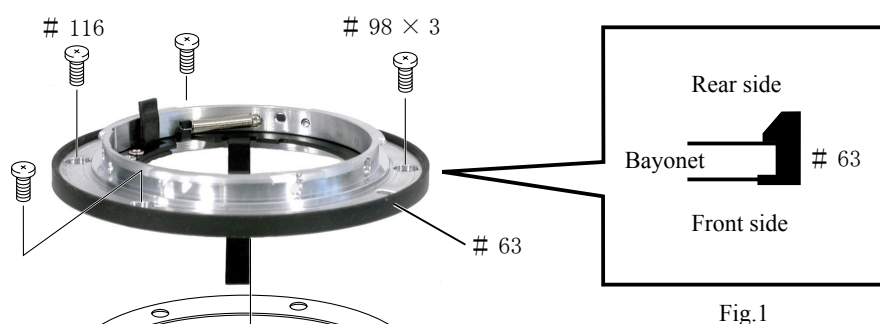

Fig.1
① Attach the washers (#78).
② Set the bayonet mount with 3 screws (#98) and the screw (#116).
- Attach the rubber ring (#63) to the bayonet mount at the position as shown in Fig.1.